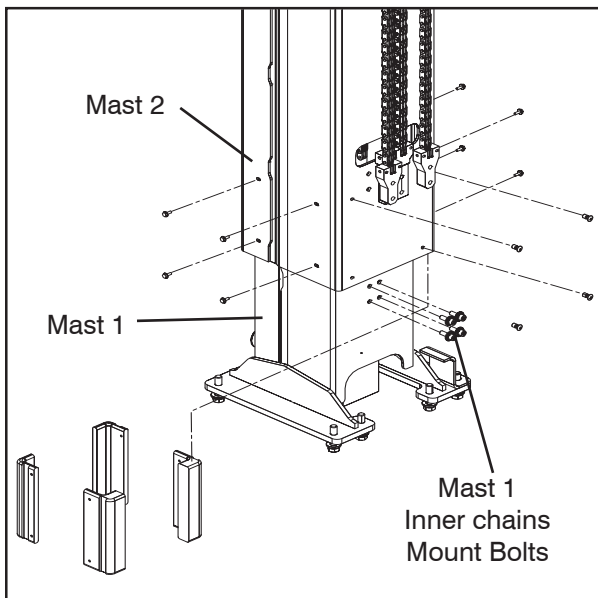

Figure 5-16. Mast 2 Components Removal
5. Remove the inner chain mount bolts on mast 1. See Figure 5-16.